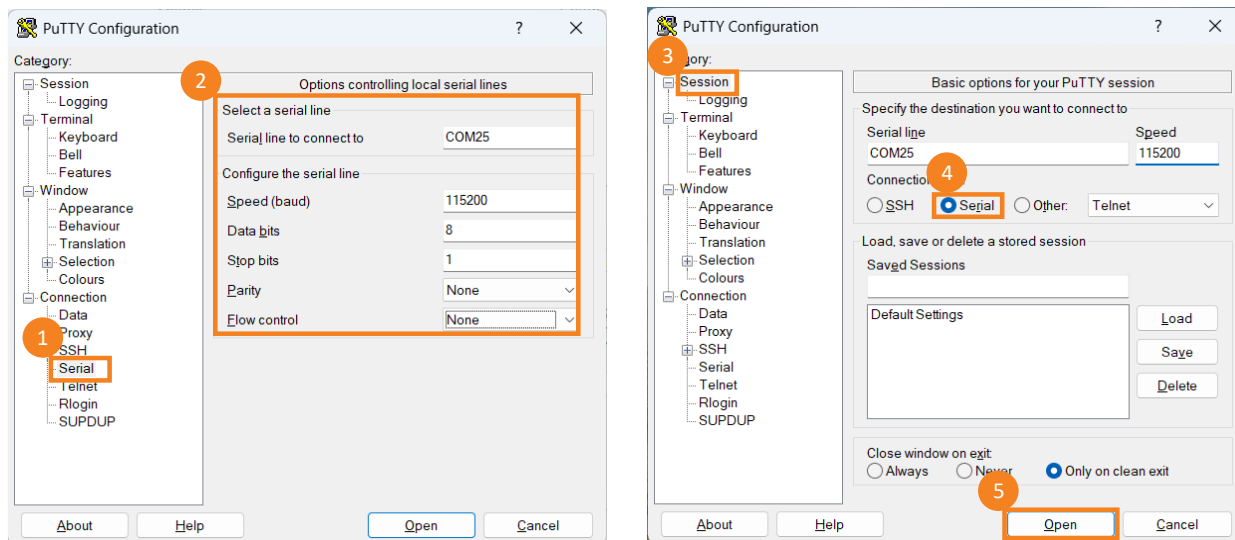

Figure 5.15. PuTTY Configuration to Open COM Port
- Follow the steps as shown in Figure 5.15 to open the selected COM port with PuTTY. COM settings for PuTTY are stated below.